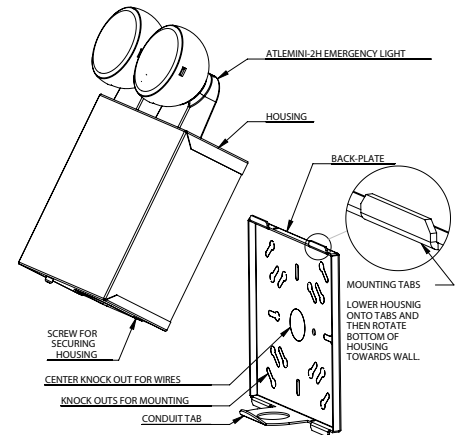

Figure 1
2. Open the Emergency Light unit by removing the screw at the bottom of the housing. Save this screw. (Figure 1)